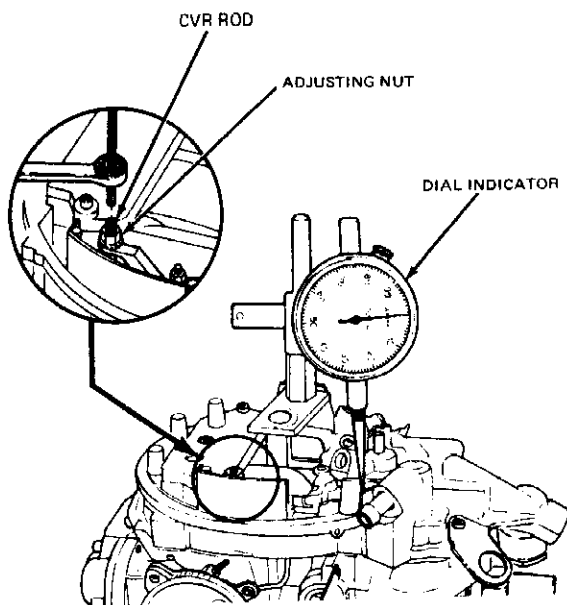

FIG. 24 Control Vacuum Regulator (CVR) Adjustment
2. Press down on the CVR rod until it bottoms on its seat (Fig. 24). Read the downtravel on the dial indicator. If it is not within specification adjust as follows: